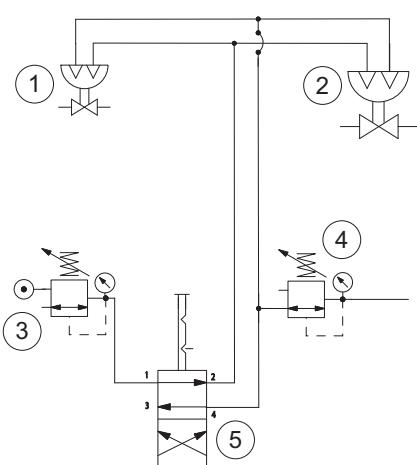

fig. 75 Pneumatic diagram
You can find the following components in fig. 75:
- See fig. 75.